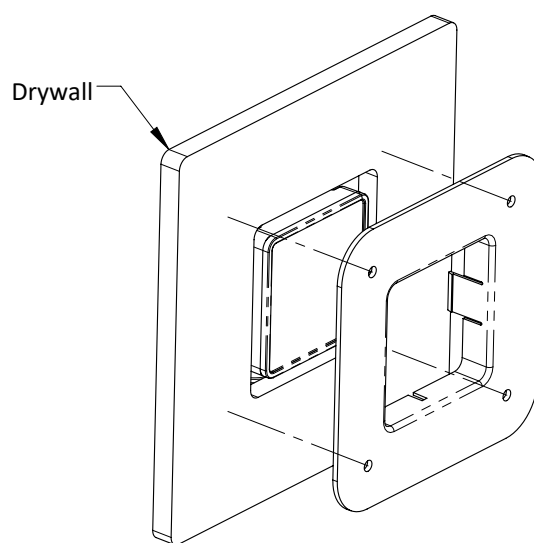

FIGURE 2
3. Align the Flush Cover plate with drywall opening, mark locations of drywall anchors (not included) and install anchors per manufacturer's instructions. (See Figure 2)